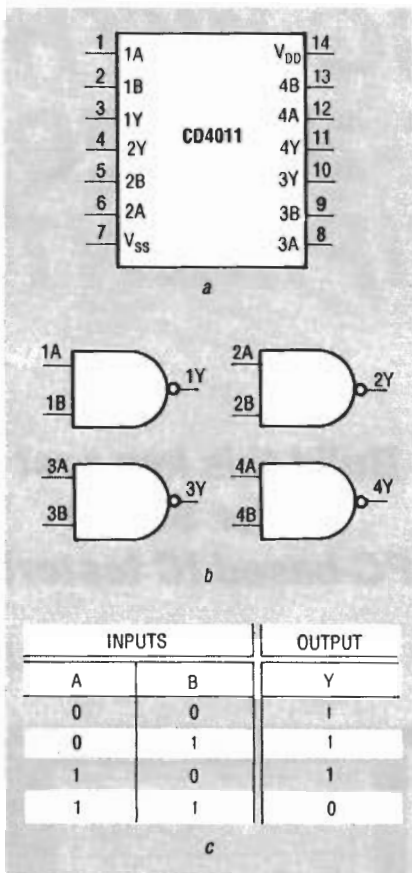

FIG. 1—IC SPECIFICATIONS. It takes a pinout (a), functional diagram (b), and a truth table (c) to fully specify an IC.
For example, Fig. 1 shows a connection diagram (a), function diagram (b), and truth table (c) for a 4011 CMOS quad two-input NAND gate. The connection diagram shows that the 4011 is a 14-pin IC with ground (V_{SS}) at pin 7 and +V (V_{DD}) at pin 14.
The other pins are labelled as well, but to find out what the labels mean, we must refer to the functional diagram (Fig. 1-b). Here we see four NAND gates, each with two inputs (A and B) and one output (Y). To find out how each gate works, we must examine the truth table (Fig. 1-c). For each gate, the output is high unless both inputs are high, in which case, the output is low.